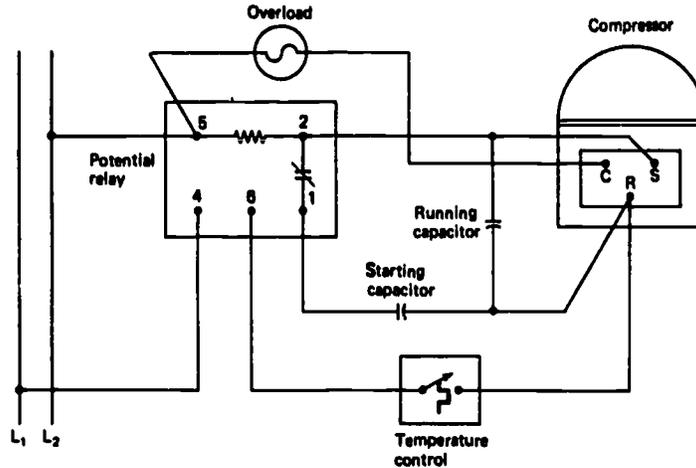

Fig 2-30. Wiring a running capacitor into the circuit.
**RUNNING CAPACITORS** are in the operating circuit continuously. They are normally of the oil-filled type. The MFD rating of these capacitors is relatively low, even though they are larger in size than the starting capacitor. They also provide enough torque to start the permanent split capacitor (PSC) type motors. Running capacitors are provided with a terminal marked with a red dot. Because of the relatively high voltage generated in the starting winding, the unmarked terminal is connected to the starting terminal on the motor. The red dot indicates the terminal that is most likely to short out in case of a capacitor breakdown. If the terminal with the red dot is connected to the motor starting terminal, damage to the winding could result. Capacitors that are determined to be out of range by plus or minus 10 percent of the mfd rating must be replaced. Again, the voltage rating must be equal to or greater than the one being replaced. Higher than normal running amperage usually indicates a weak capacitor. Refer to figure 2-30 to wire a running capacitor into the circuit.